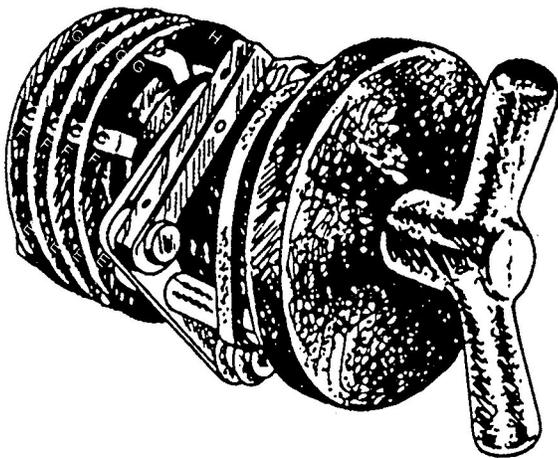

Figure 2-8.—Type J switch.
**TYPE J.**— The type J multiple rotary selector switch (fig. 2-8) consists of an equal number of rotors and pancake sections. The number of sections required in the switch is determined by the individual application. A shaft with an operating handle extends through the center of the rotors. The movable contacts are mounted on the rotors, and the stationary contacts are mounted on the pancake sections. Each section consists of eight contacts, designated A to H, and a rotor with two insulated movable contacts spaced 180° apart. Each movable contact is arranged to bridge two adjacent stationary contacts. The switch has eight positions. A detent mechanism is provided for proper alignment of the contacts in each position of the operating handle. In